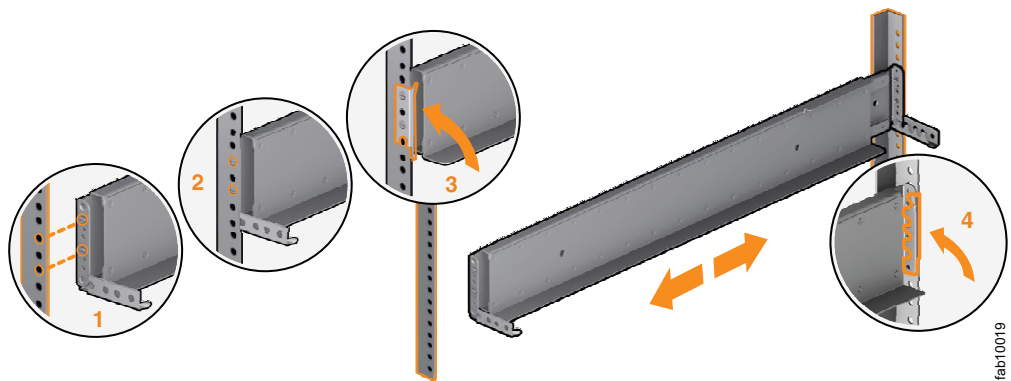

Figure 16. Closing the hinge brackets
8. Close the rear hinge bracket to secure the rail to the rack cabinet flange. (See Figure 16.)
10. Close the front hinge bracket to secure the rail to the rack cabinet flange. (See Figure 16.)